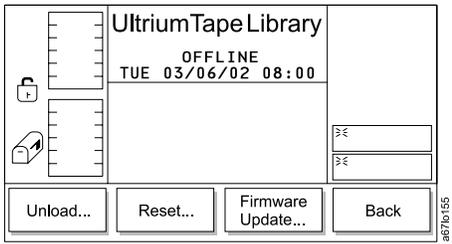

Figure 8-7. Drives Submenu
2. Press the button below the **Drives** softkey. The Drives Submenu displays (see Figure 8-7 on page 8-10).